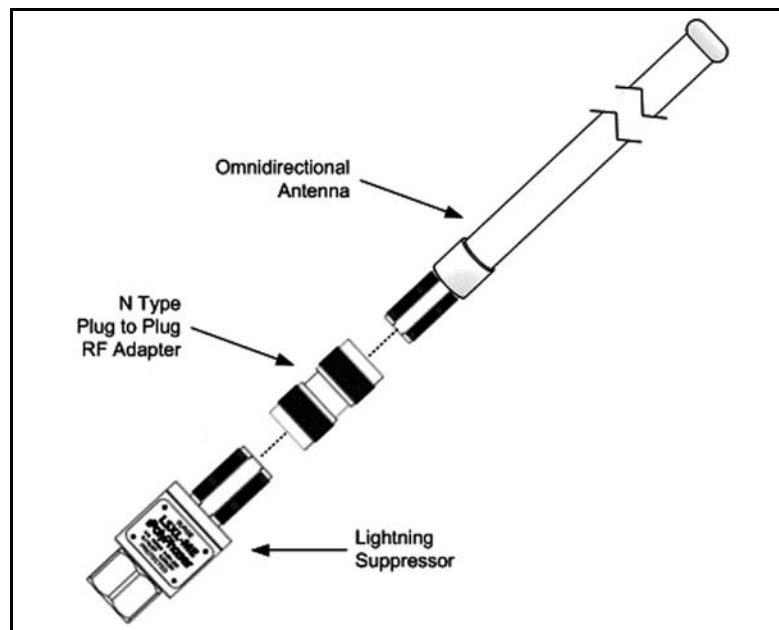

Figure 6-4: VIDA Broadband Client Antenna with External Lightning Protection
2. For units without built-in lightning protection, external lightning protection is required to provide maximum protection to the site. Connect the optional lightning suppressor to the antenna assembly as shown in Figure 6-4.